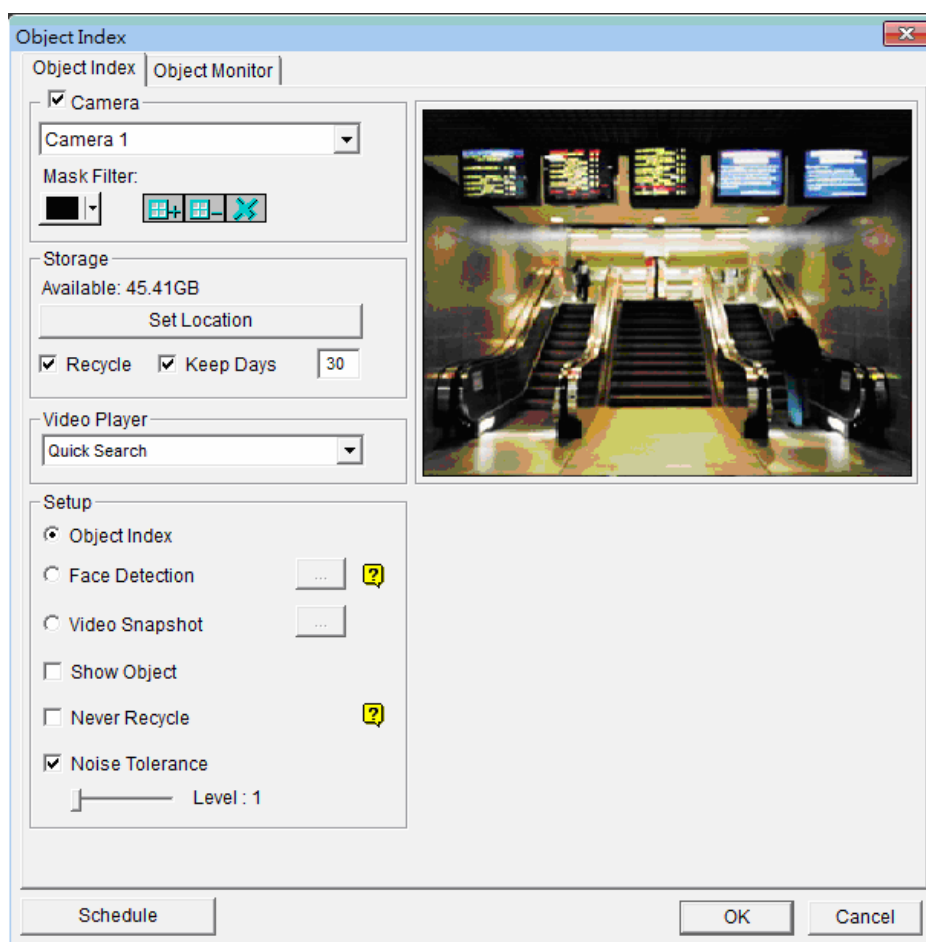

Figure 3-26 Object Index
4. If you enable **Save as JPEG file**, the JPEG files are saved at the default path: **\\GV folder\Jpg**. You can also define the storage page by using the **Set Location** function on the Object Index dialog box (Figure 3-26).